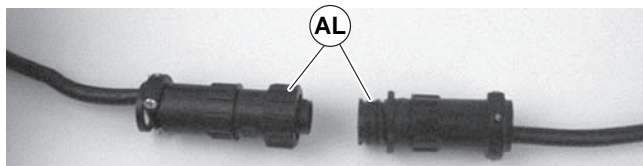

Figure 28
3. For DC variable speed motor, unplug motor cord at disconnect (Figure 28, item AL).